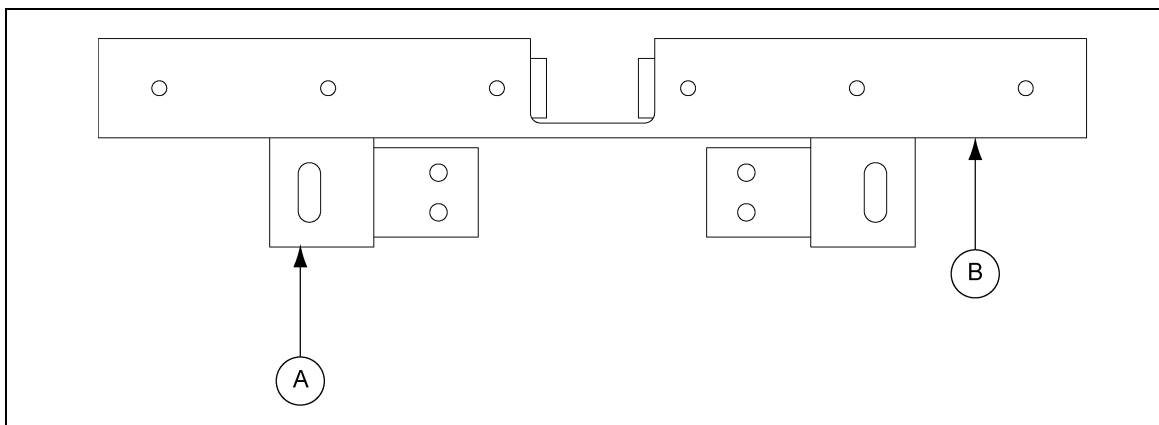

Figure 10G End View of UHMW Flight on Carry-Over Bars
The carry-over bars should be spaced so that they pick up the UHMW flights (B) as shown in Figure 10G on Page 49.